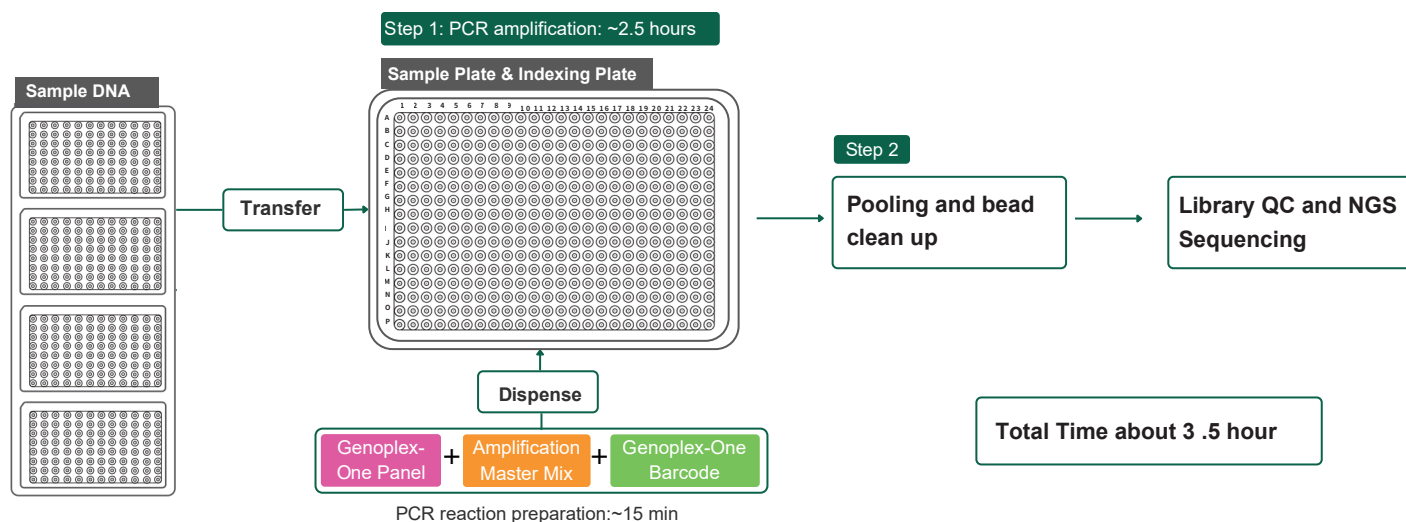

Figure 1. The GenoPlex-One Workflow for 384-Format PCR Setup and SNP Genotyping
- **One-Step Multiplexing:** The GenoPlex-One enables the multiplexing of dozens to hundreds of SNPs in a single reaction through a streamlined one-step PCR workflow (Figure 1).